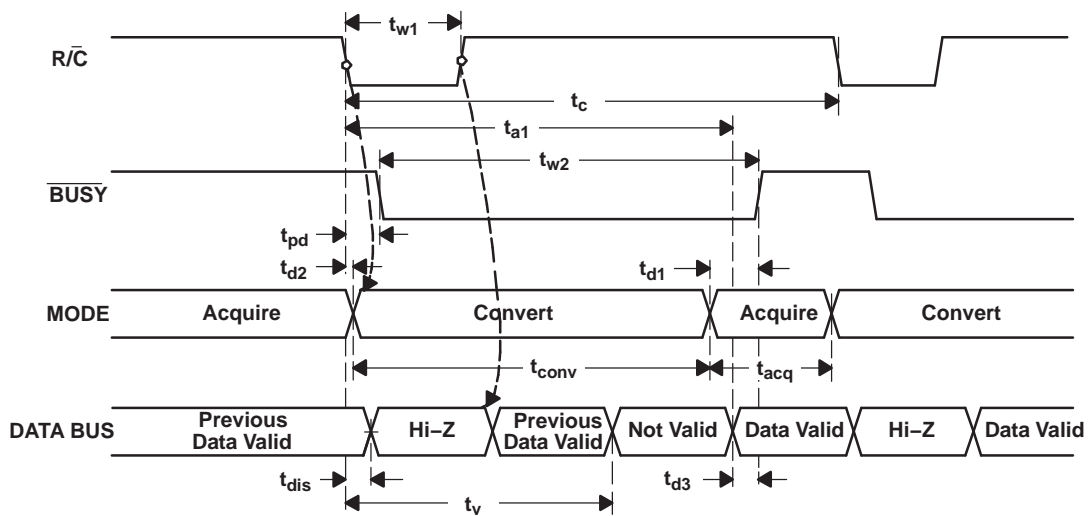
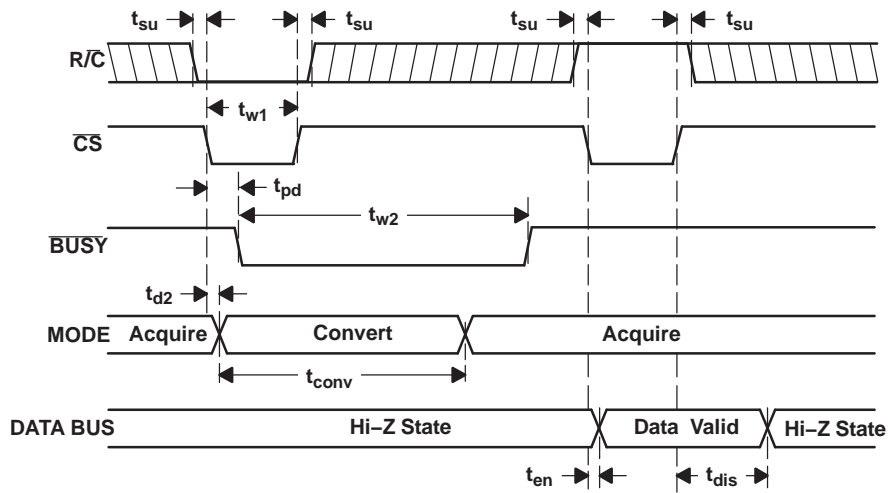
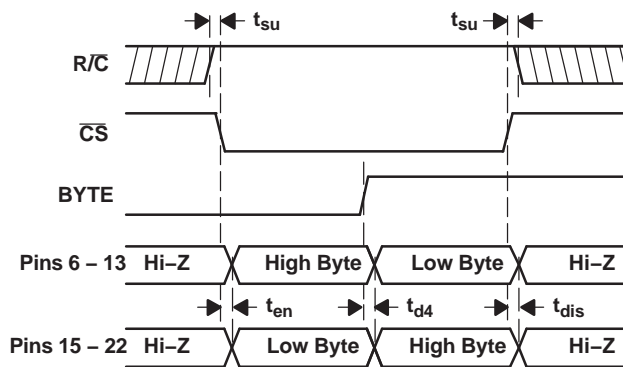

Figure 23. Conversion Timing with Outputs Enabled after Conversion (\overline{CS} Tied Low)
Figure 24. Using \overline{CS} to Control Conversion and Read Timing
Figure 25. Using \overline{CS} and **BYTE** to Control Data Bus
The ADS8505 begins tracking the input signal at the end of the conversion. Allowing 4 μ s between convert commands assures accurate acquisition of a new signal. Refer to Table 1 for a summary of \overline{CS} , R/\overline{C} , and \overline{BUSY} states and Figure 23 through Figure 25 for the timing diagrams.
(1) See Figure 23 and Figure 24 for constraints on data valid from conversion $n-1$.
After conversion n is completed and the output registers have been updated, \overline{BUSY} (pin 26) goes high. Valid data from conversion n is available on D15-D0 (pins 6-13 and 15-22). \overline{BUSY} going high can be used to latch the data. Refer to Table 3, Figure 23, Figure 24, and Figure 25 for timing specifications.
After conversion n has been initiated, valid data from conversion $n-1$ can be read and is valid up to t_2 (2.2 μ s typ) after the start of conversion n . Do not attempt to read data from t_2 (2.2 μ s typ) after the start of conversion n until \overline{BUSY} (pin 26) goes high; this may result in reading invalid data. Refer to Table 3, Figure 23, Figure 24, and Figure 25 for timing specifications.
The number of control lines can be reduced by tying \overline{CS} low while using the falling edge of R/\overline{C} to initiate conversions and the rising edge of R/\overline{C} to activate the output mode of the converter. See Figure 23.